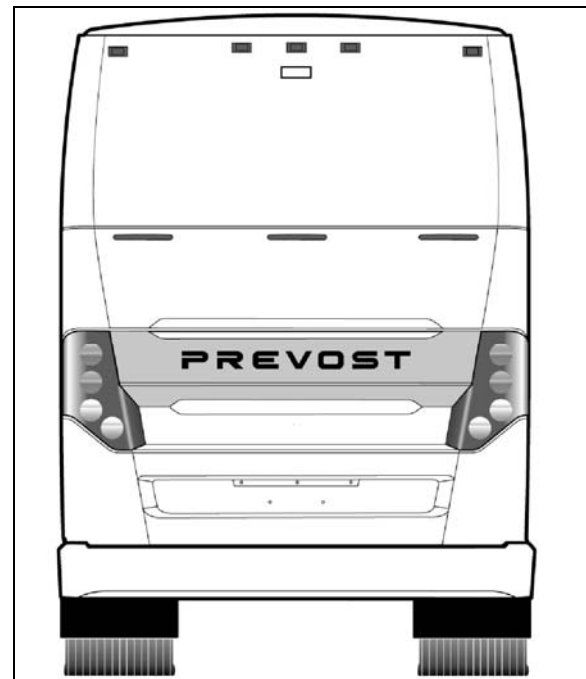

FIGURE 60: ENGINE COMPARTMENT DOOR 18497
5. When the door is straight, remove the 2x4's and check door operation and fit. A difference of 3/32" (2mm) between both sides is accepted (Fig. 60).